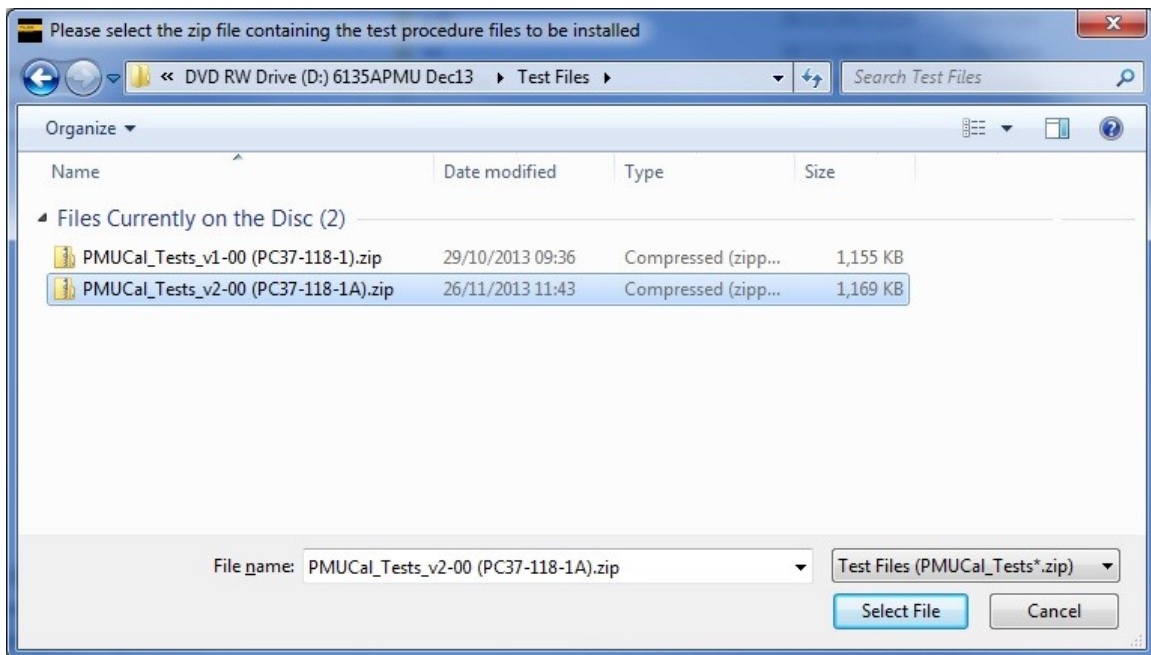

Figure 2-4. Test File Selection
3. Highlight the required zip file as shown in Figure 2-4.